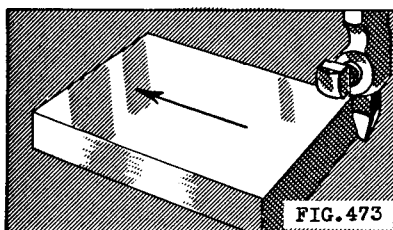

FIG. 473
7. Raise the tool slightly by lifting the clapper box, and, at the same time, move the table until the work is to the left of the tool (Fig. 473).